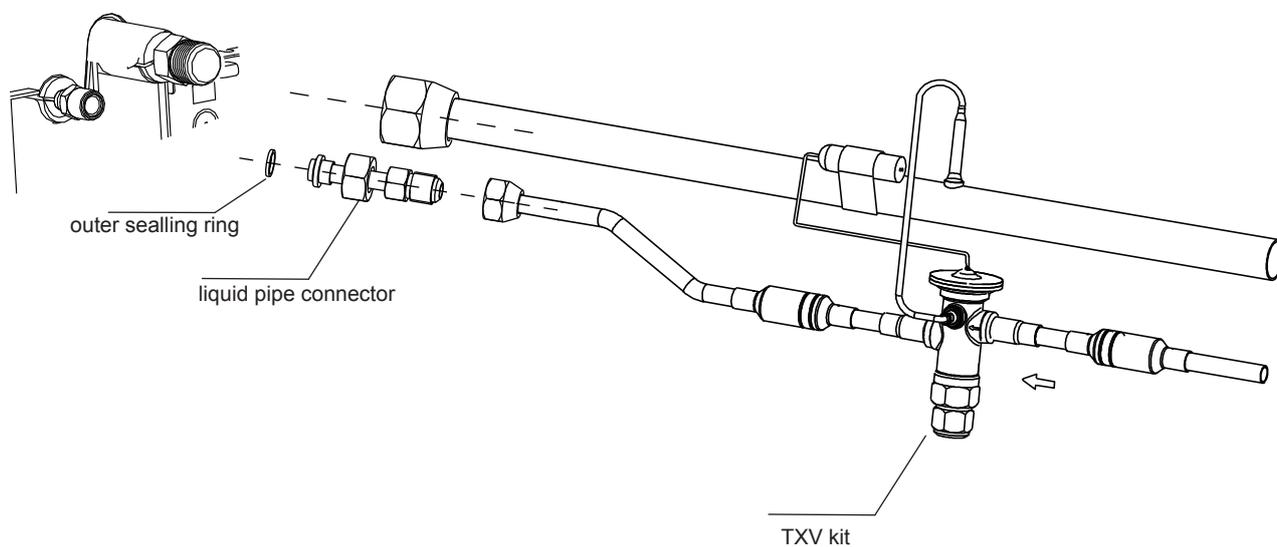

Figure 19-2
2. Install the sealing washers, TXV and flange connection tube as shown in Fig.19-2.